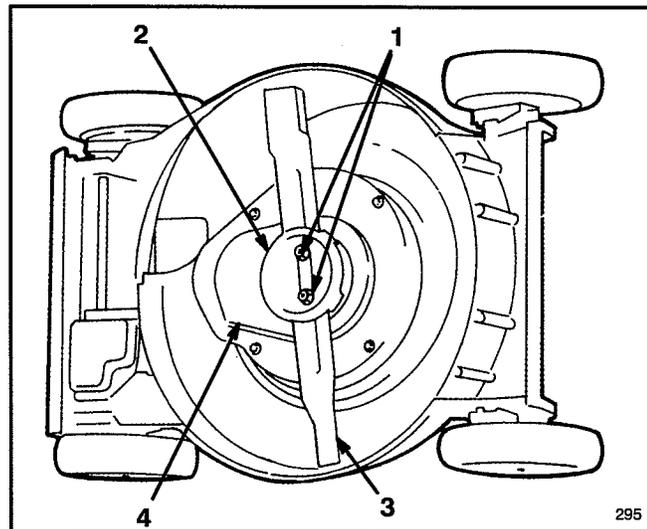

Figure 32
3. Tip mower on its left side (Fig. 32).
4. Remove two blade nuts, anti-scalp cup, blade, blade spacer, rotating screen, and four bolts securing BBC shield to mower deck (Fig. 32 & 33).